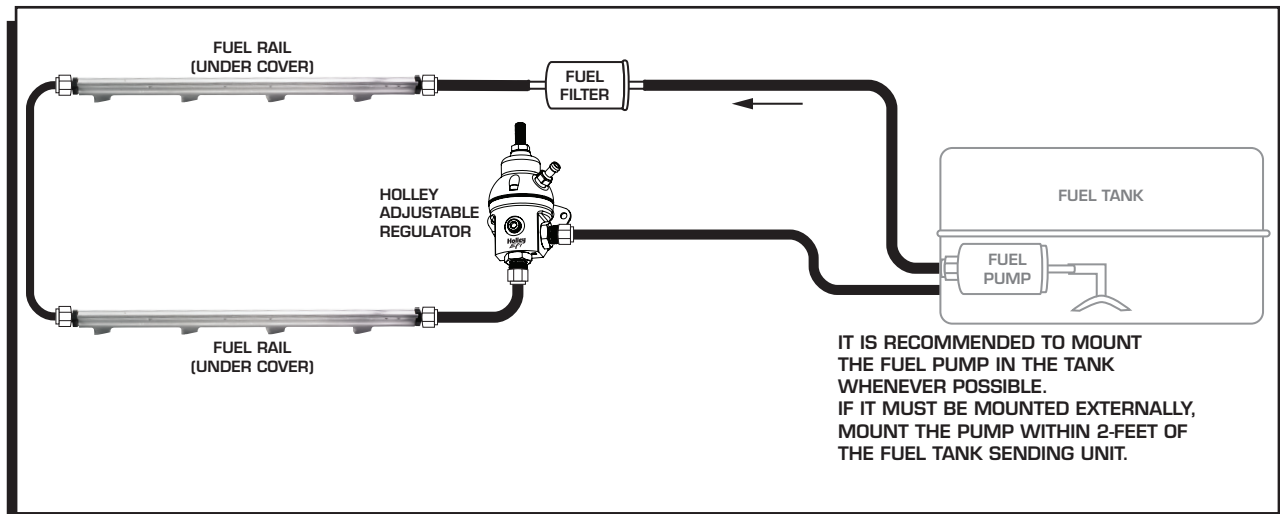
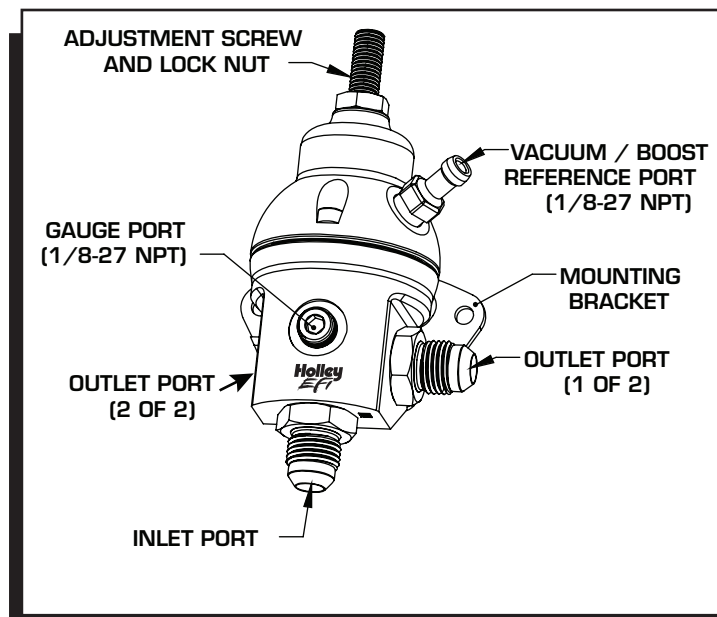

Figure 3 EFI Return Fuel System.
Figure 5 Regulator Feature Identification Guide
When installing the kit in conjunction with an EFI return system, refer to Figure 3. There are two possible connection points (one at the rear of each fuel rail assembly). One rail will be connected to the fuel supply in an operational system. DO NOT “tee” into the supply line and leave the opposing fuel rail plugged or capped (Figure 5). Fuel from the opposing rail should be routed to the regulator inlet port (using the supplied hose and fittings). The hose length between the rail and regulator is not critical, but should be kept to a minimum.
The regulator inlet port is located on the bottom surface, and clearly marked with an identifier machined in the housing (see Figure 5). Two (2) outlet ports are available, but typically only one (1) will be used. Install the supplied -6AN port plug in the unused outlet port using a 5/16-inch hex key (Allen wrench). The -6AN straight port fittings should be snugged with an 11/16-inch wrench or deep socket.
Install the supplied 1/8-27 NPT brass hose barb fitting in the upper regulator housing (see Figure 5) using a 7/16-inch wrench or deep socket. Thread sealer is not required on this fitting, but can be used if desired. Connect an intake manifold vacuum / boost source to this fitting, or leave it open to the atmosphere if manifold pressure compensation is not required. DO NOT plug this opening. Ensure that contaminants (such as water and road spray) cannot enter the open fitting. In the event that vacuum / boost reference is